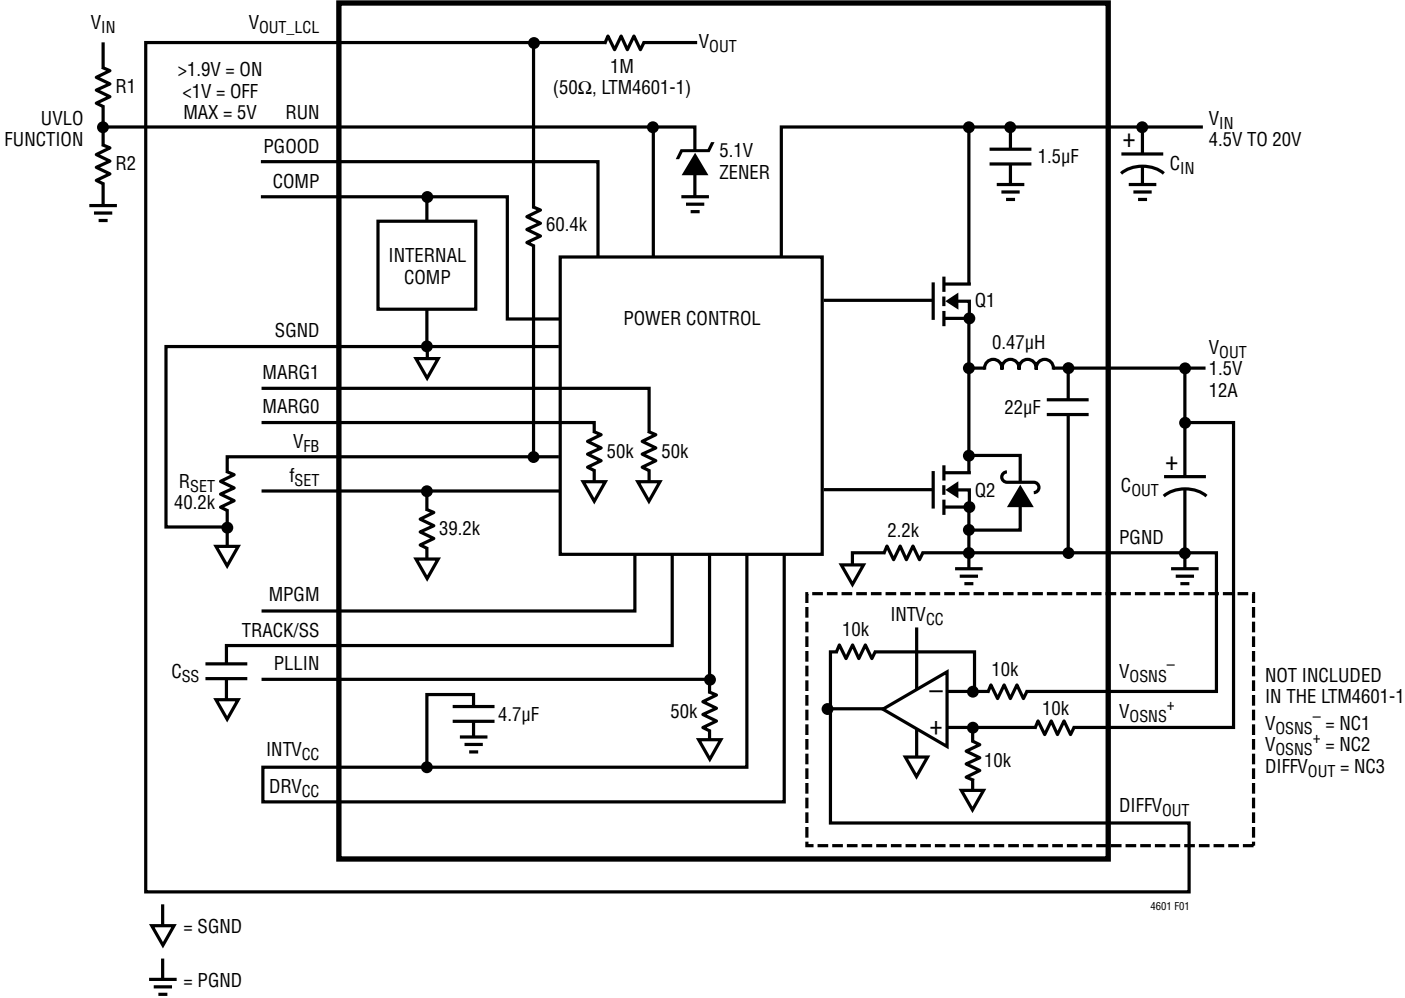

Figure 1. Simplified LTM4601/LTM4601-1 Block Diagram
**RUN (Pin A10):** Run Control Pin. A voltage above 1.9V will turn on the module, and when below 1V, will turn off the module. A programmable UVLO function can be accomplished by connecting to a resistor divider from  $V_{IN}$  to ground. See Figure 1. This pin has a 5.1V Zener to ground. Maximum pin voltage is 5V. Limit current into the RUN pin to less than 1mA.
## DECOUPLING REQUIREMENTS $T_A = 25^\circ\text{C}$ , $V_{IN} = 12\text{V}$ . Use Figure 1 configuration.
See Figure 1, Simplified Block Diagram.